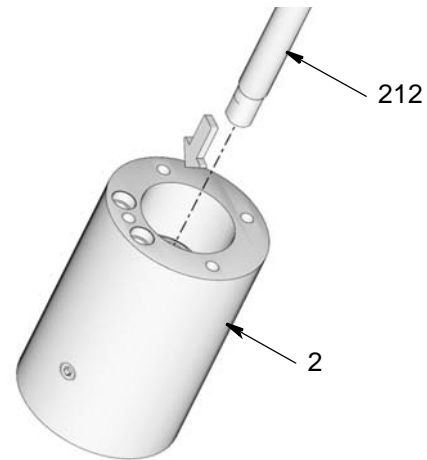

**FIG. 36**
1. Apply a thin layer of grease to the packing u-cup (202).
2. Use a flat, blunt-end tool to seat u-cup (202), with the lips facing down, into the pump adapter (2) (FIG. 36).
3. Install hex nut (201) inside pump adapter (2). Use a wrench to tighten nut securely (FIG. 36). Torque to 18-22 ft lbs (24 - 30 N.m)